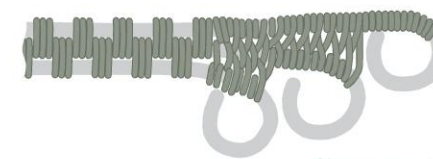

figure 6
- 10 Follow Weave Pattern 3 (see page 17) to the loop curve of Frame Wire 1, weaving all three frame wire ends together. Follow Weave Pattern 1 to the loop curve of Frame Wire 2, weaving two frame wire ends together. Then coil to the loop curve of Frame Wire 3. Cut the 26-gauge wire tail on the inside of the loop (Figure 6).